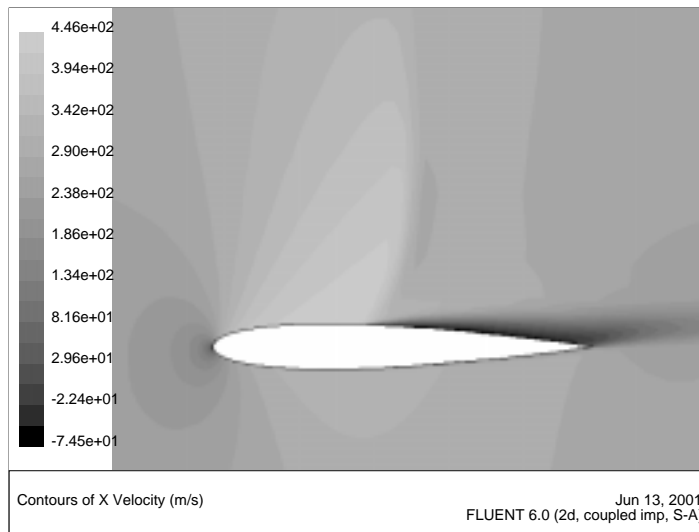

Figure 3.16: Contour Plot of  $x$  Component of Velocity
5. Display filled contours of the  $x$  component of velocity (Figure 3.16).